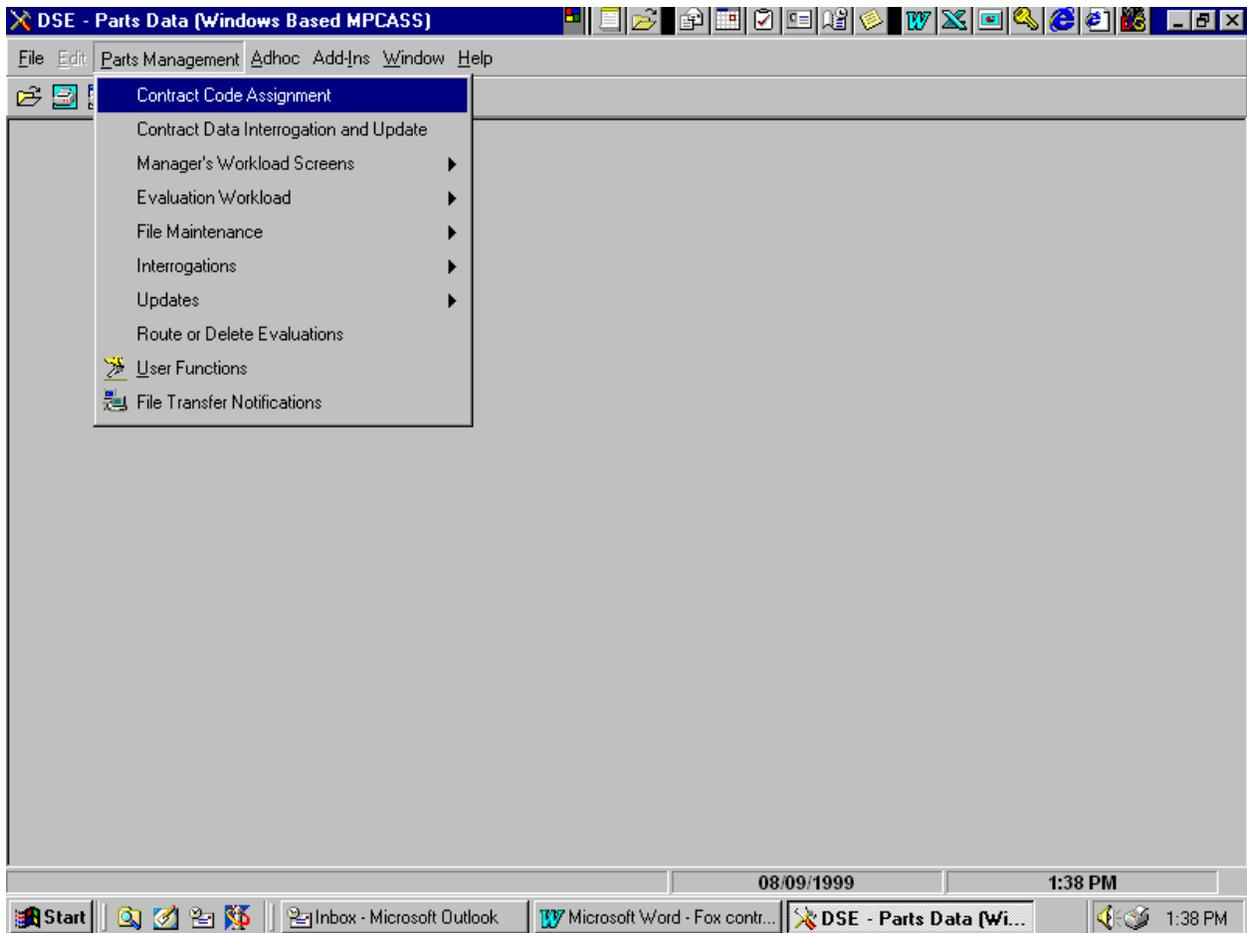

Figure 4.3a - MAIN MENU DROP-DOWN SELECTIONS
b. The Electronics MPCAG Manager (MA), MPCAG Leader (LE), and MPCAG Supervisor (SM) have authorization to input data to get a contract code assigned. MPCAG Leader (LE) and MPCAG Supervisor (SM) have the authorization to assign a code. If, after a contract code is assigned, a change is required, the SM can make additions or changes to any contract record. The MA and LE can make changes to contract records for which they have responsibility. The designated SU may make changes to any contract record. Record can be interrogated or updated by selecting menu option Contract Data Interrogation and Update from the Parts Management drop-down menu.
c. On the DSE - Parts Data (Windows Based MPCASS) window, click on CONTRACT CODE ASSIGNMENT. If the user is authorized to input contract data, i.e., MA, LE, SM, or SU, the first window will be displayed to enter the contract number (see Figures 4.3a and 4.3a1).